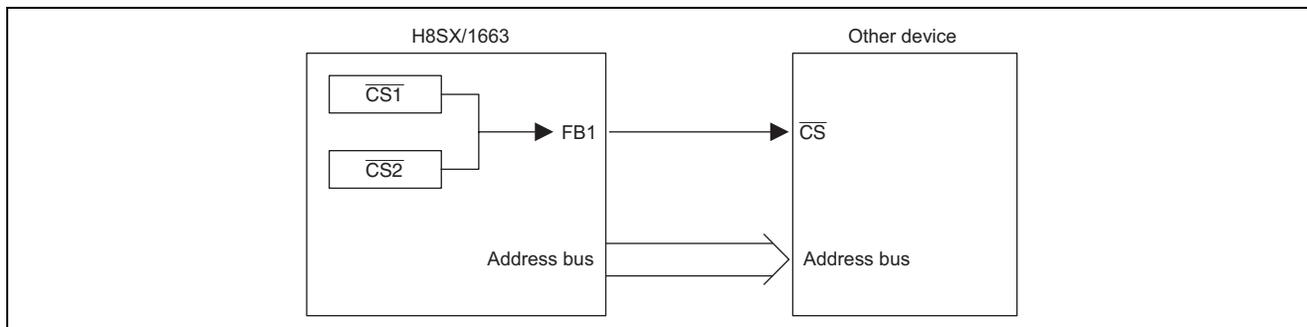

Figure 1 Example of Connection for Output of Multiple \overline{CS} Signals through the Same Pin
- An example of connection of this sample task is shown in figure 1.